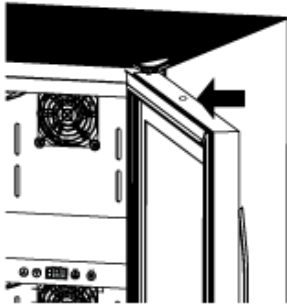

Figure 2
2. Use your thumb to press down on the stainless steel screw in the middle of the top of the door, and turn it counterclockwise to unscrew it. See Figure 2. Save this screw.